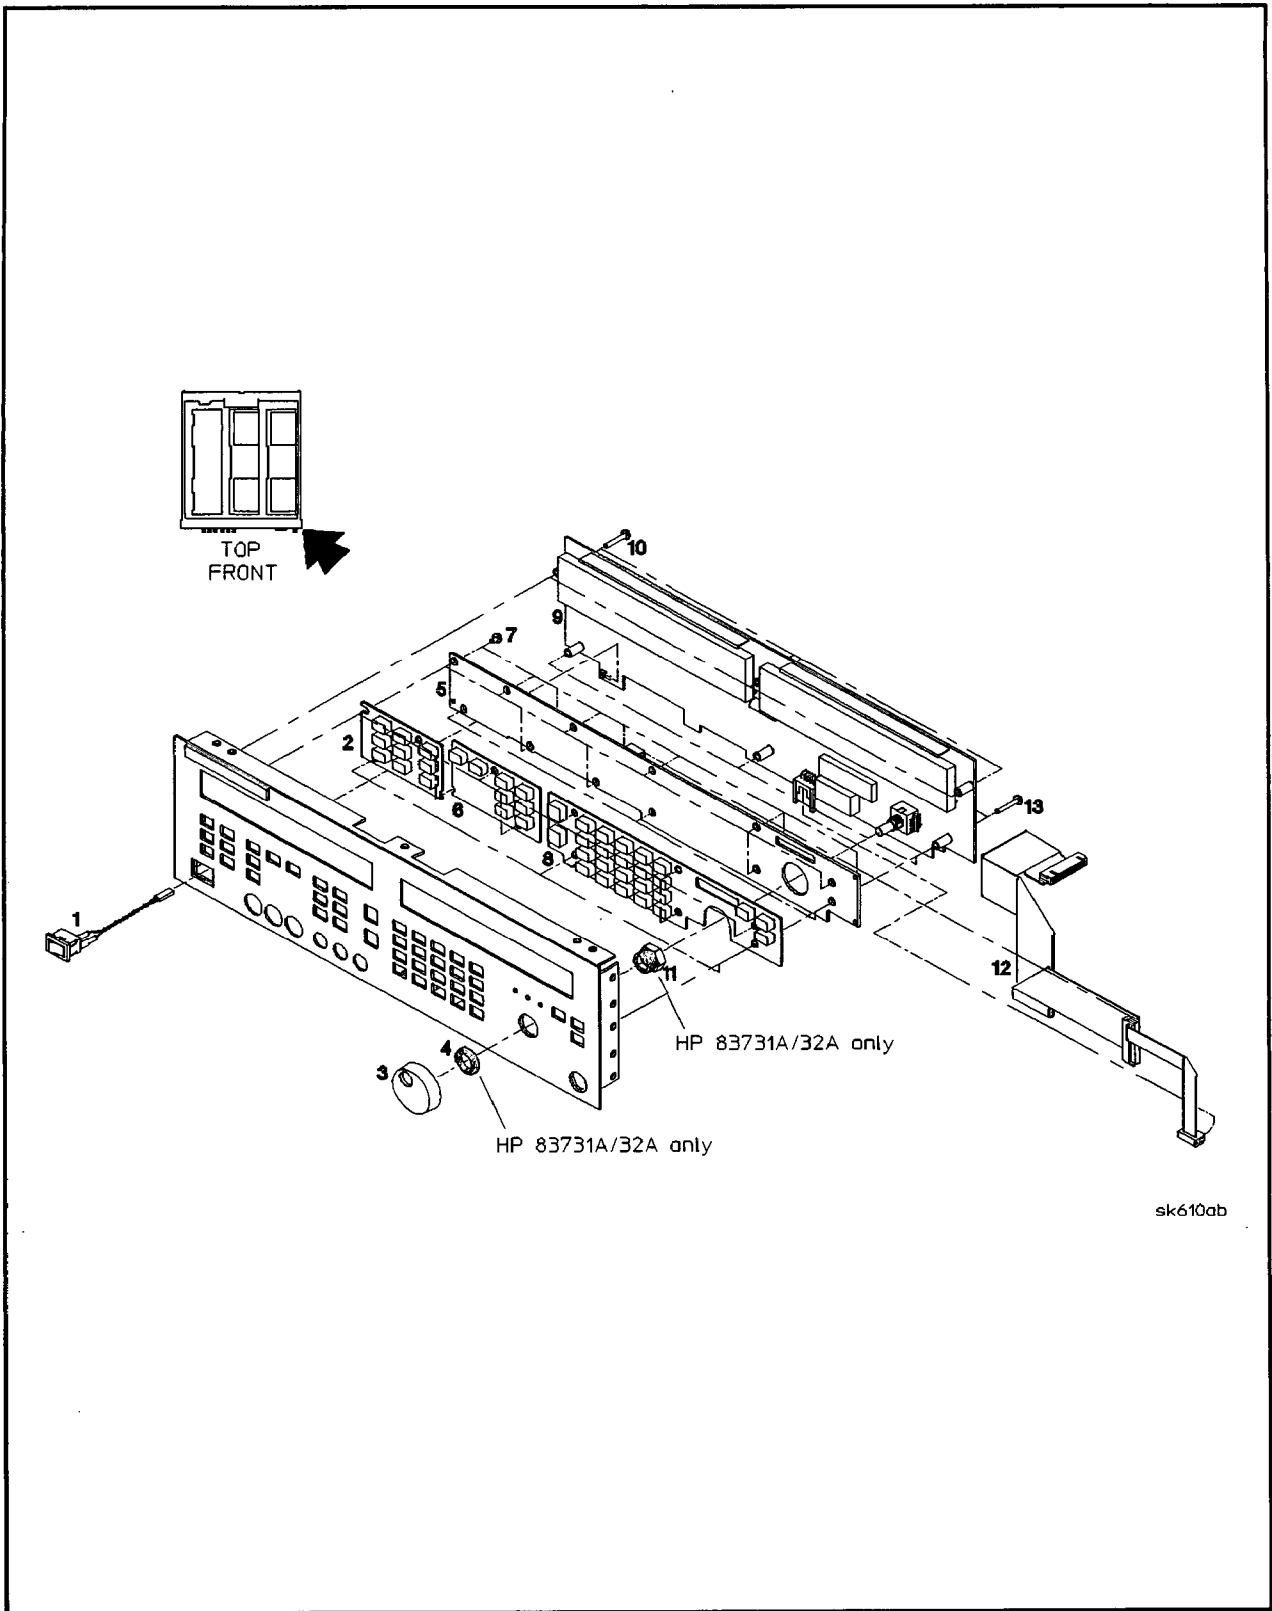

Figure 5-39. Front Panel and BNC Connector Removal
3. Using a knurled nut driver, remove the nut from the RF output connector. See Figure 5-39.
5. Using a size 10 TORX® screwdriver, remove the ten screws connecting the front panel to the front frame. See Figure 5-39.
1. Using a 9/16-inch nutdriver, remove the nut securing the BNC connector to the front panel. See Figure 5-39.
1. In the introduction to this chapter, refer to “Flexible Coaxial Cables” and then disconnect the following cables from the front panel: (See Figure 5-39.)